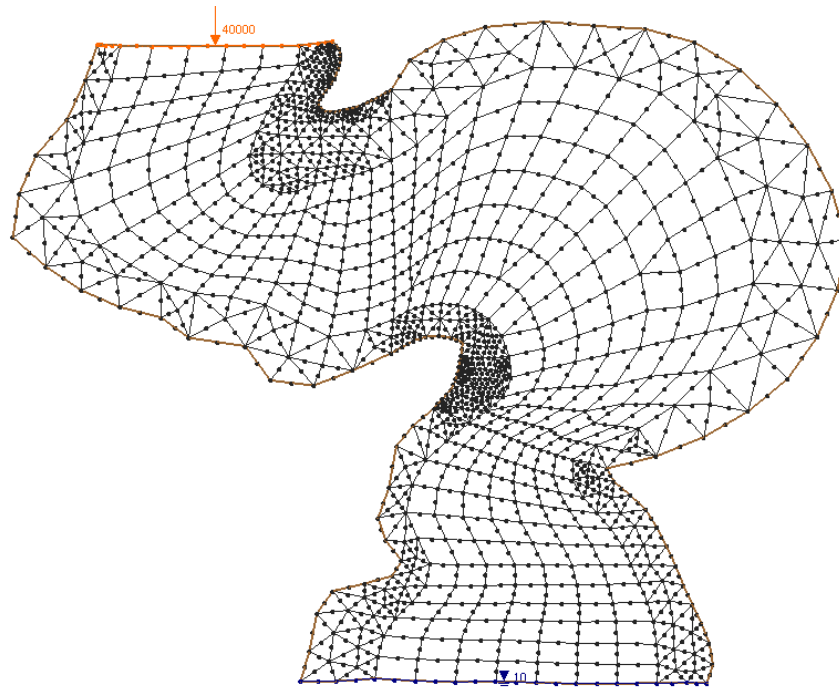

Figure 14-1. The mesh contained in *stmary.sms*.
2. Open the file *stmary.sms* supplied in the *tutorial\tut14* directory. The display will refresh with the mesh as shown in Figure 14-1.